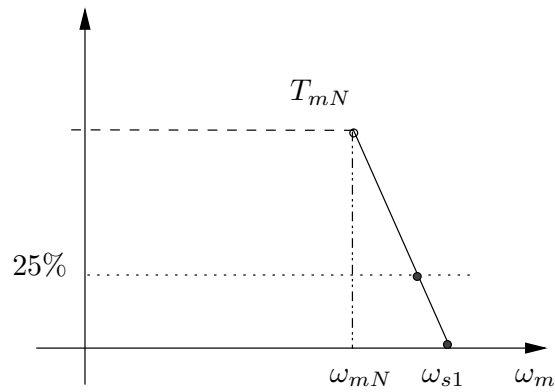

Figure 2
d. At 25% full load, the torque/speed characteristic is almost linear (see Figure 2).